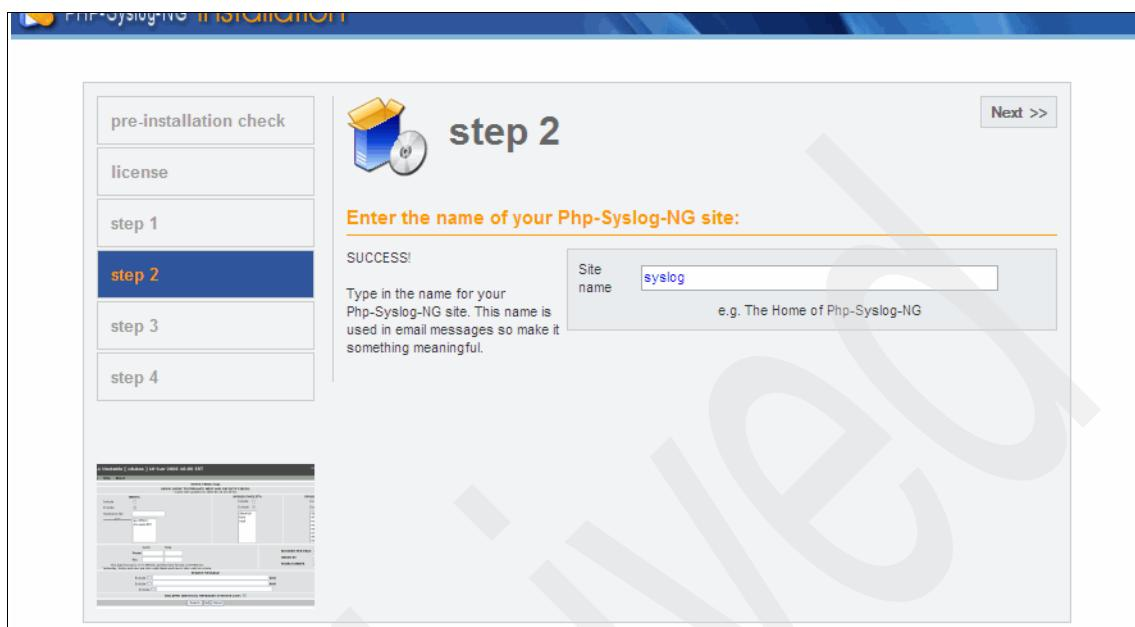

Figure 10-3 Site name
4. Set up the site name as shown in Figure 10-3 and click **Next**.